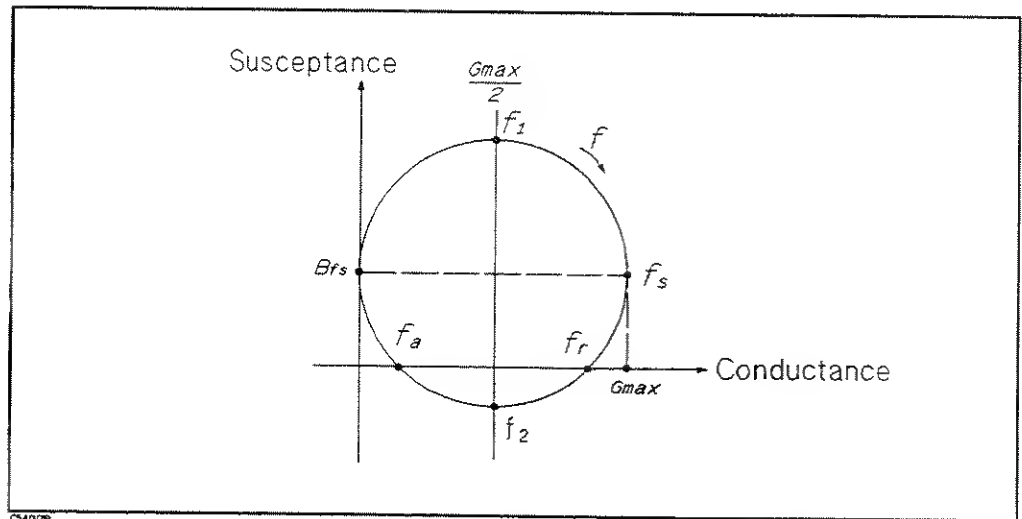

Figure I-19. Admittance Characteristic Circle Diagram
1. Obtains the admittance characteristic circle diagram. (See Figure I-19.)